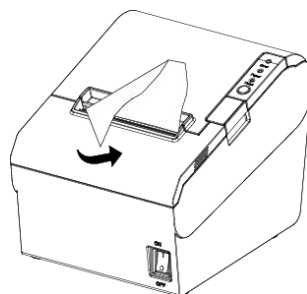

Figure 4.6.4
5) Tear the redundant paper. (Like figure 4.6.4)